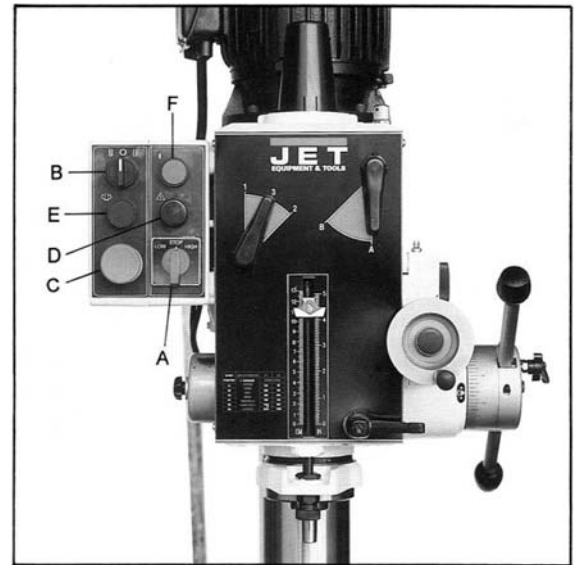
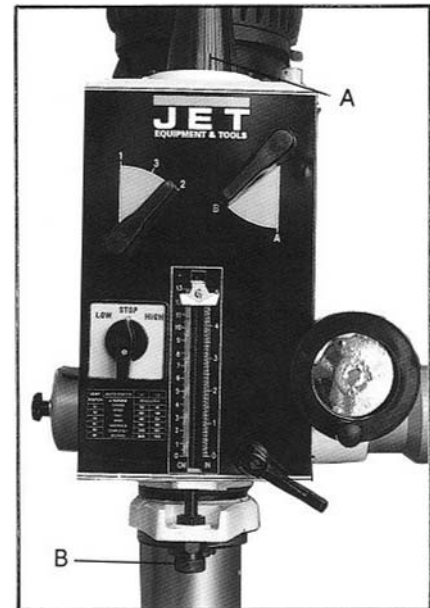

Figure 9A
Figure 11
Low/Off/High Switch (A, Figure 9A) Switch between low and high speed range. In the stop position, the spindle is stopped, but the machine still has power.
Drilling Tapping Selector (B, Figure 9A) For drilling, press the start switch (F, Figure 9A) to run the machine. **Caution:** The internal depth stop (GHD-20PFT) is used only with the tapping function. Raise the adjusting knob (B, Figure 11) to the top of the depth stop screw so as not to interfere with power downfeed or manual feeding operations. For tapping, turn switch (B, Figure 9A) to tapping position, press down the handle. The quill functions when upper limit switch is released. It then reverses automatically after hitting lower limit switch and will not stop until it hits the upper limit switch.
Emergency Switch (C, Figure 9A) Press this switch to stop all operations.
Power Light (D, Figure 9A) Indicates power is on.
Reverse Switch (E, Figure 9A) If tapping is interrupted press the reverse switch to reverse the tap from workpiece. The button must be held down for continuous reversing.
Start Switch (F, Figure 9A) Activates the motor in the drill or tap mode.
3. Remove the main shaft cover (A, Figure 11).
1. Turn the adjusting knob (B, Figure 11) until the correct depth is indicated on the scale on the front of the drill head.
1. Turn the adjusting knob (B, Figure 11) until full travel is possible. Do not use this scale as a reference when drilling. This depth stop is for tapping only and should not interfere with drilling operations.